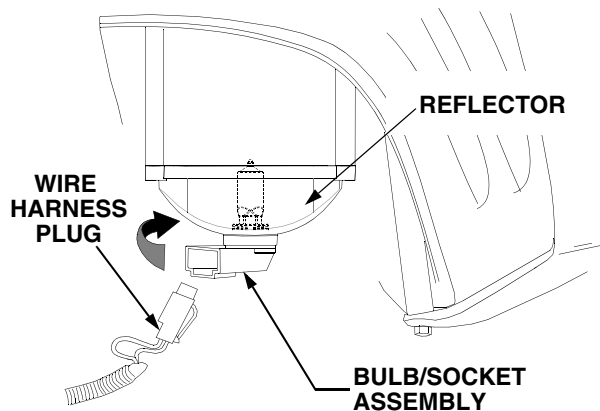

Figure 36
- Pull the wire harness plug from the bulb/socket assembly to unplug the wire harness. Refer to Figure 36.
- Turn the bulb/socket assembly approximately a quarter turn counterclockwise to align its tabs with the notches of the reflector, then remove from the reflector. See Figure 36.